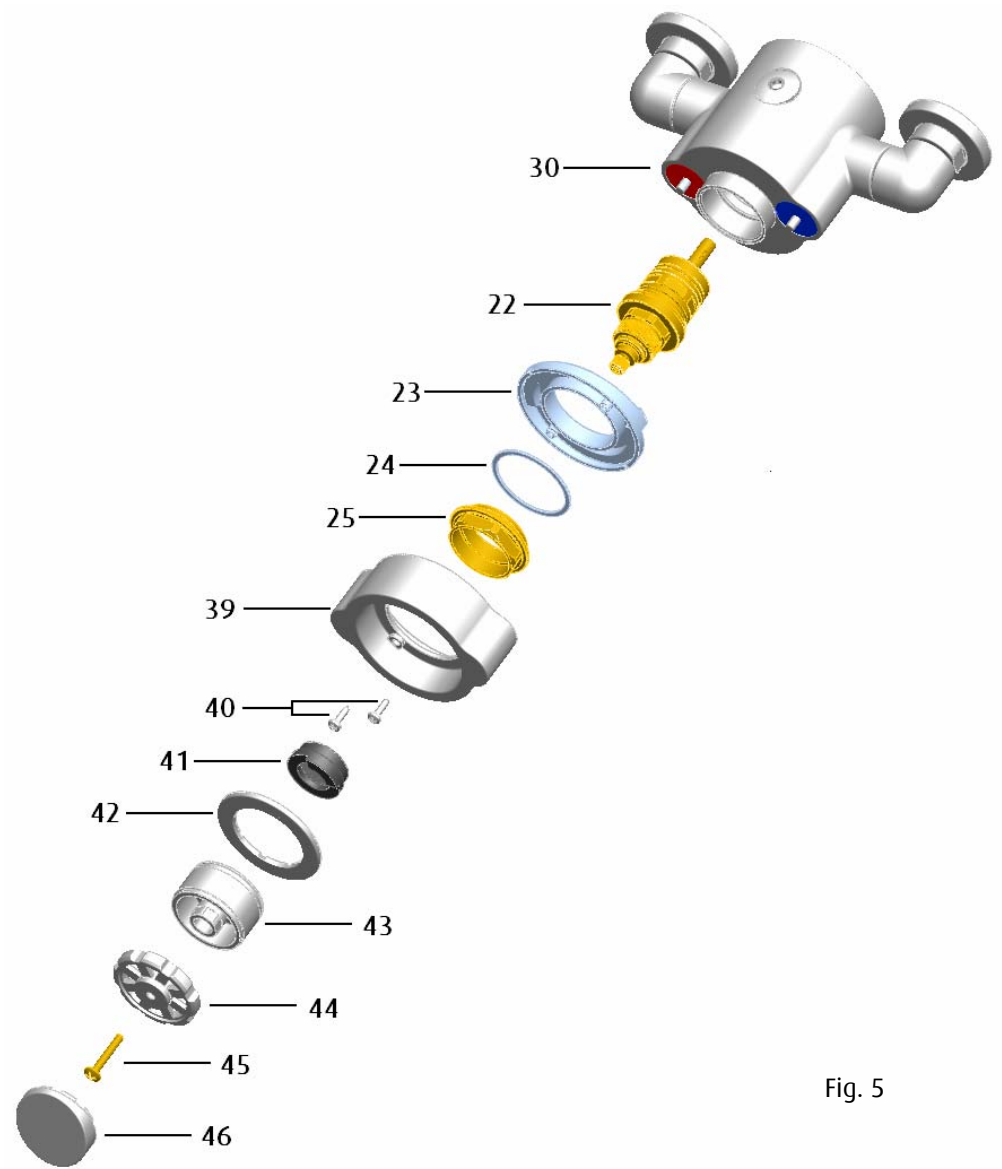

Fig. 5
8.3 Cartridge Removal (See Fig. 5).